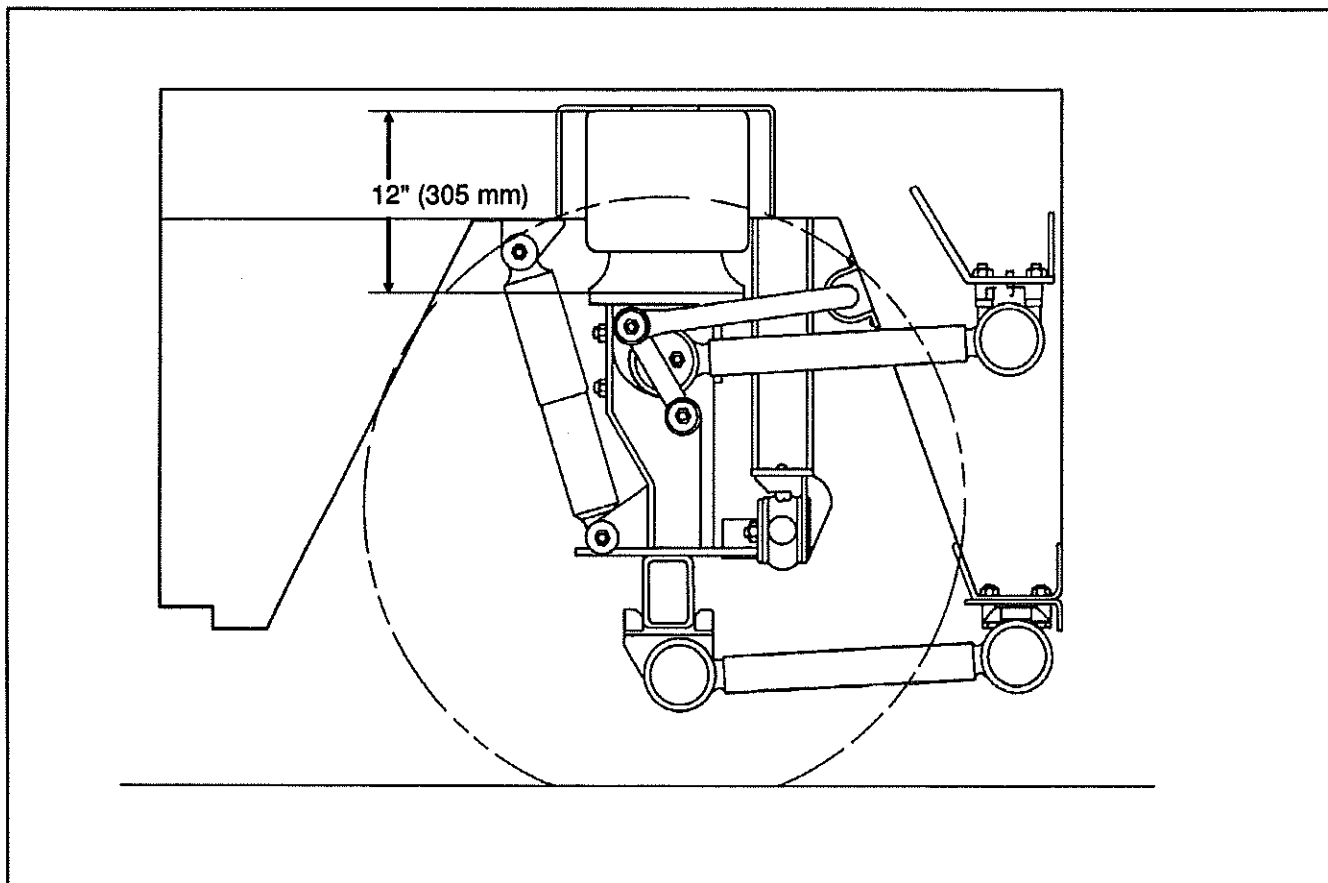

FIG. 23 - Front axle air spring clearance
The appropriate vehicle body height is obtained by measuring the clearance of the air springs installed on the front and drive axles. The clearance should be 12" (305 mm) for the air springs installed on the front axle and 11.5" (292 mm) for those installed on the drive axle. Refer to figure 23 to identify the correct location where the measure has to be taken. At this point, it should not be necessary to make an adjustment under normal service conditions. However, if an adjustment is required, change the position of the overtravel lever in relation to the overtravel control body. The lever should be moved up to raise the height of vehicle, and down to lower it. Check that main air pressure is at normal operating pressure and raise the vehicle to the specified height.
1. With the vehicle at normal operating air pressure, check the air spring clearance as illustrated in figure 23. This clearance should be 12" (305 mm) for the front axle air springs and 11.5" (292 mm) for those on the drive axle.
NOTE: The measure should be taken from under the upper air spring support on subframe to top of the lower air spring support on axle (refer to fig. 23 for more details). If adjustment is required, begin with the drive axle.